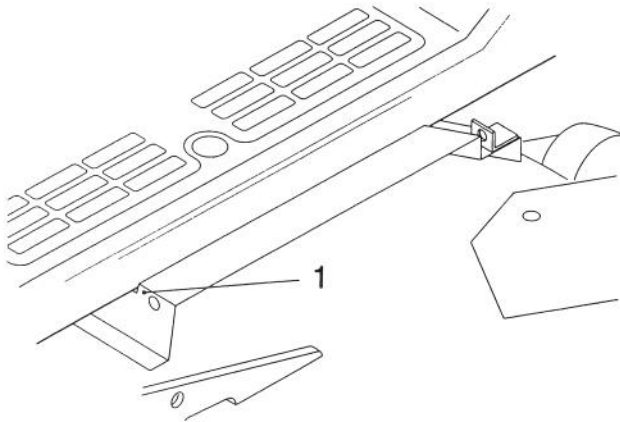

Figure 17
3. Raise the mower to its highest position to make sure the bottom of the rider's running board fits into the slot in the mower belt cover (Fig. 17). Tighten the belt-cover screws.